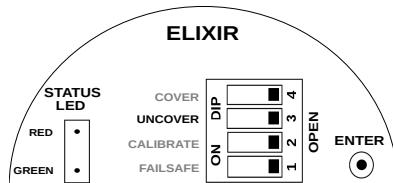

Figure 25: Saving Uncover Delay
4. Uncover Delay is entered, but not saved. To save and test the uncover delay, set the UNCOVER switch back to OPEN position as shown in Figure 25.